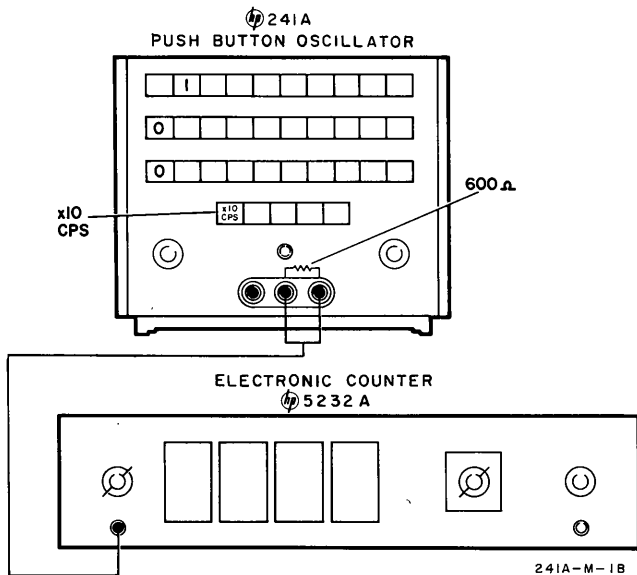

Figure 5-1. Frequency Check Setup
- Connect Model 241A as shown in Figure 5-1.